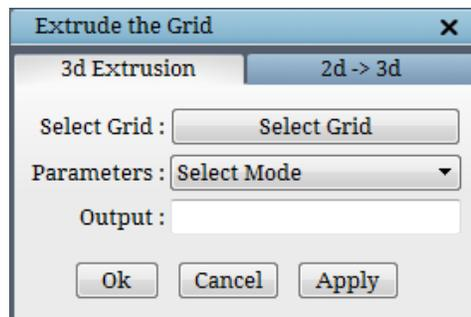

Figure 5.31: Extrude dialog box
Extrude is a simple extrusion tool, which can either linearly extrude the given block faces based on the inputs or extrude a 2D grid to 3D with given no. of cells in the normal direction. It can be found in the **Edit** section of the **Grid** tab on the right side tab. Clicking on **Extrude**  button pops a dialog box as shown in Figure 5.31.
**First cell spacing** is the cell spacing of the first cell from the given grid face. It should be given the same value as the last cell space of the grid so that the grid will have a smooth transition. **Growth ratio** represents the ratio at which the cell spacing has to increase. **Length** defines the maximum length to which the extrusion should be executed. **Cells** represent the no. of cells to be used for the extrusion. Note that either length or cells should be given as input, if both are given, length takes the precedence. Once it is set, click on 'set parameters' button and click on Apply in the main dialog box as shown in Figure 5.31.